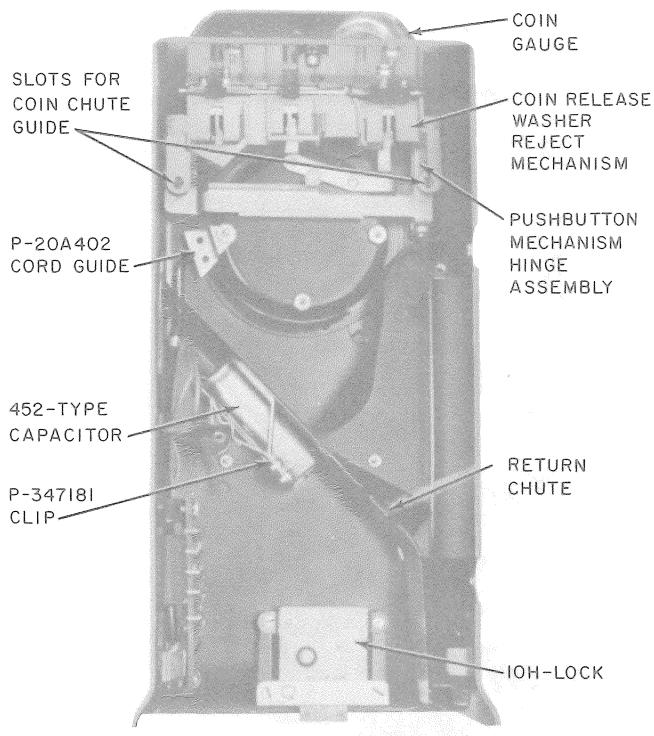

Fig. 10—Upper Housing, Coin Chute Assembly Removed
- 2.17** Coin collectors using gong signal and chute assemblies equipped with a P-349754 gong assembly have the 452-type capacitor associated with an electromagnet. It mounts on the upper housing underneath the coin return chute with a P-347181 clip (Fig. 10).